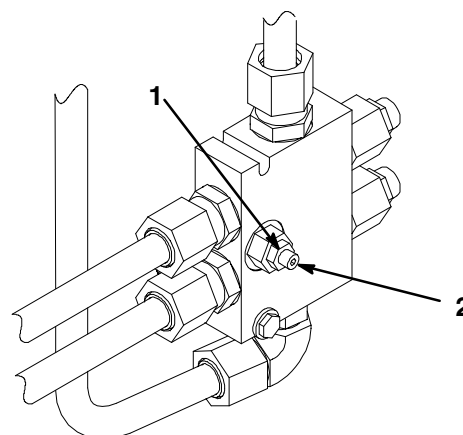

Figure 11
2. Loosen the jam nut on each tow valve (Fig. 11).
Note: The valves are located inside the frame, one on each side of the traction unit, towards the rear of the unit. Figure 11 illustrates the left side valve.